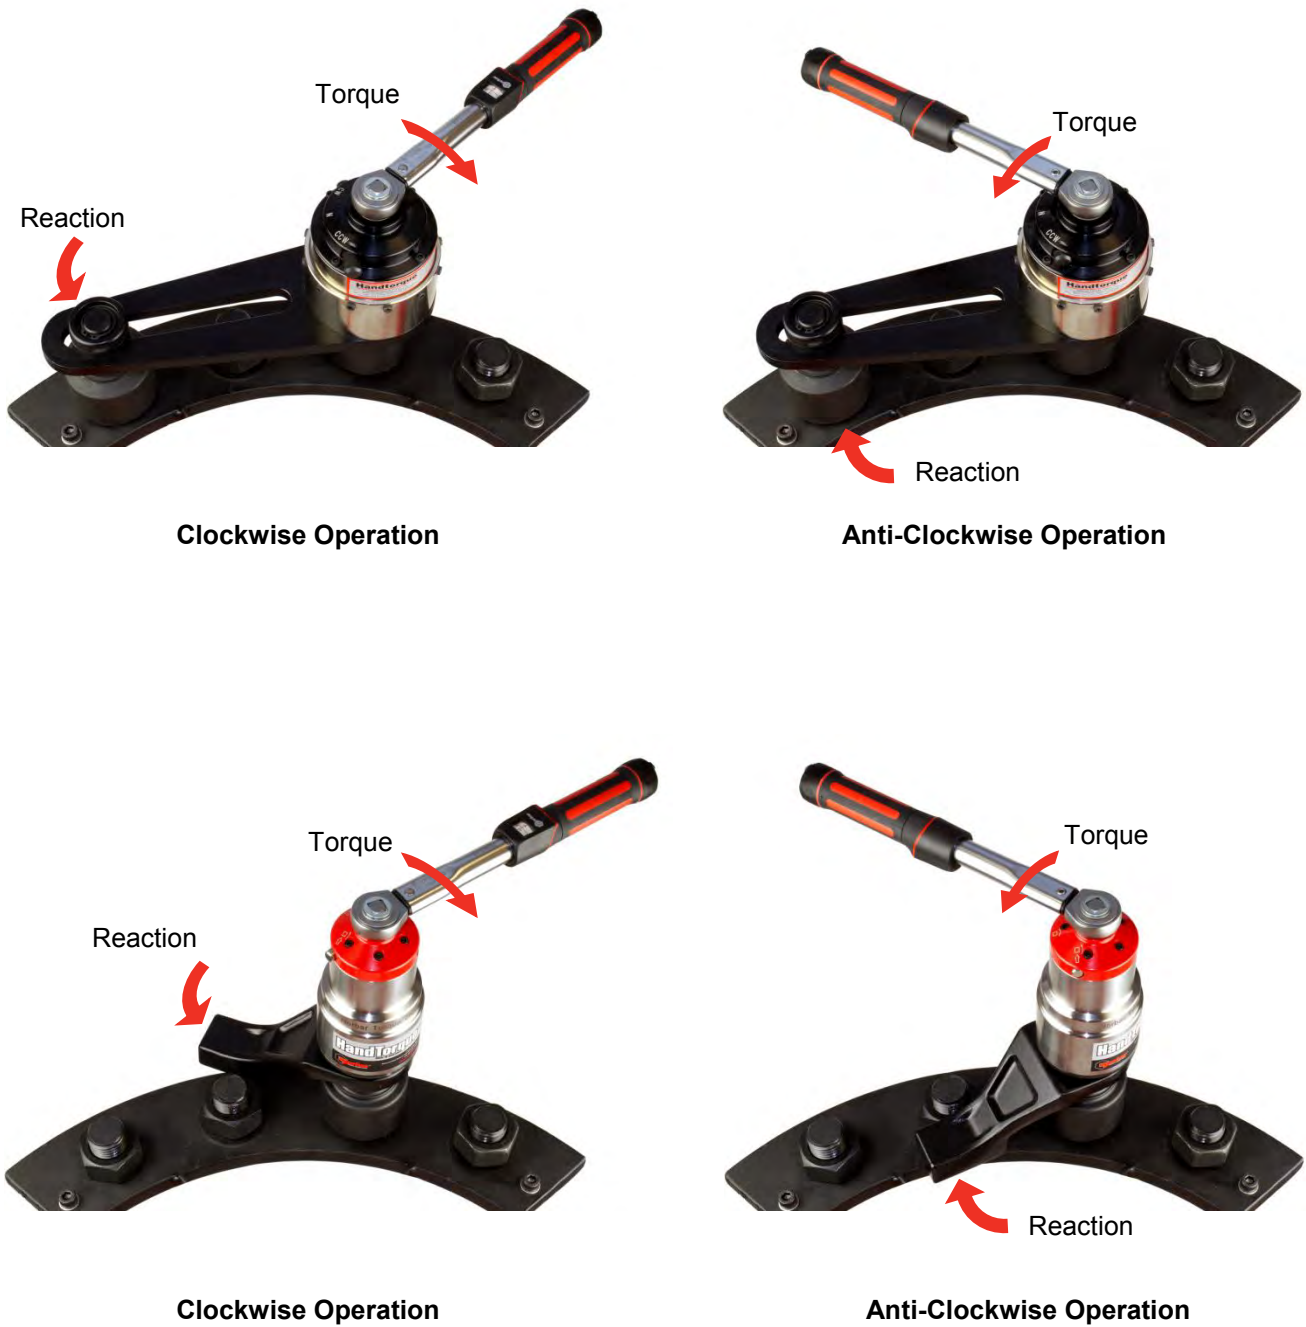

FIGURE 2
When the Handtorque™ is in operation, the Reaction Plate rotates in the opposite direction to the Output Square Drive and must be allowed to rest squarely against a solid object or surface adjacent to the bolt to be tightened (see Figure 2).
2. Fit the multiplier to the bolt with the reaction plate adjacent to the reaction point. See Figure 2.